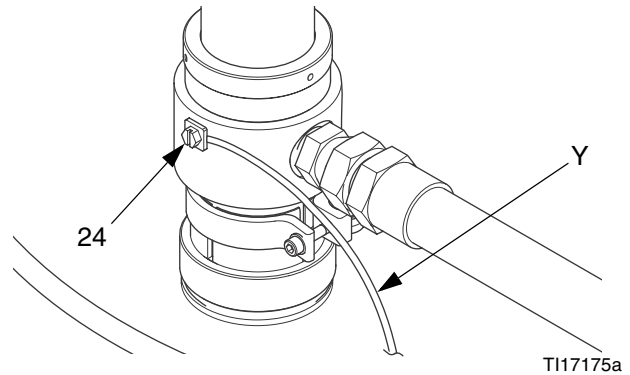

FIG. 9
1. *Pump*: Connect Ground Wire (Y) to grounding screw (24) and tighten the screw securely. See FIG. 9. Connect the other end